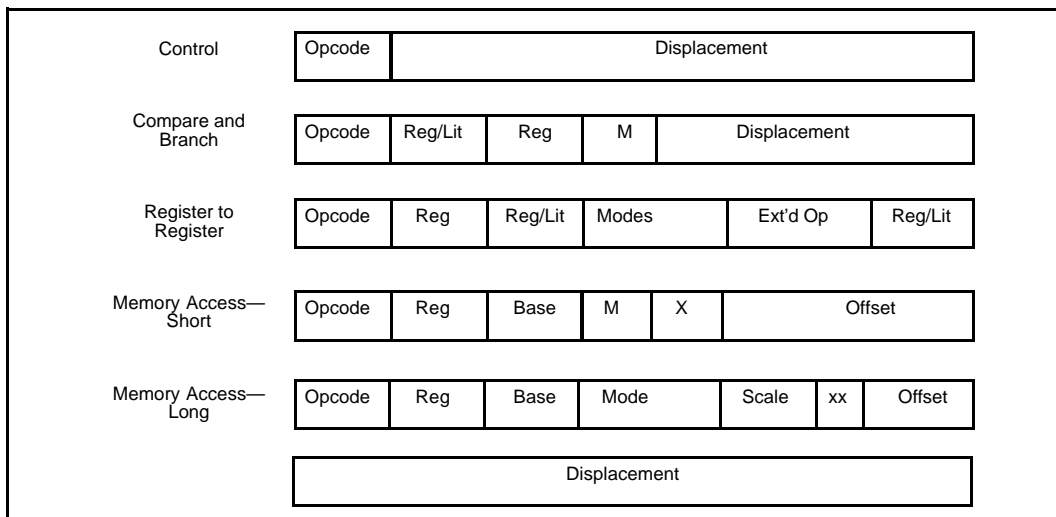

Figure 3. Instruction Formats
**4. Simple Instruction Formats.** All instructions in the 80960KA are 32 bits long and must be aligned on word boundaries. This alignment makes it possible to eliminate the instruction alignment stage in the pipeline. To simplify the instruction decoder, there are only five instruction formats; each instruction uses only one format. (See Figure 3.)